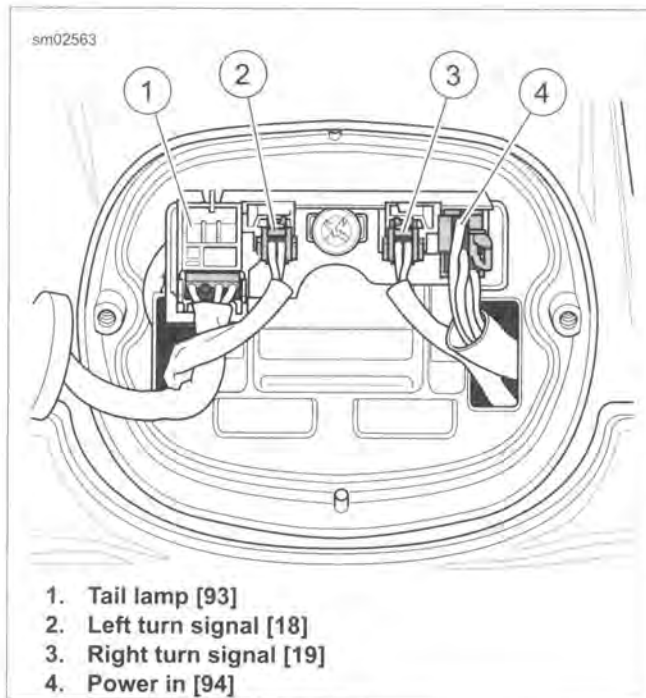

Figure 7-39. Wire Location at Connectors
8. See Figure 7-39. Install connectors (1-4) to pin housing.